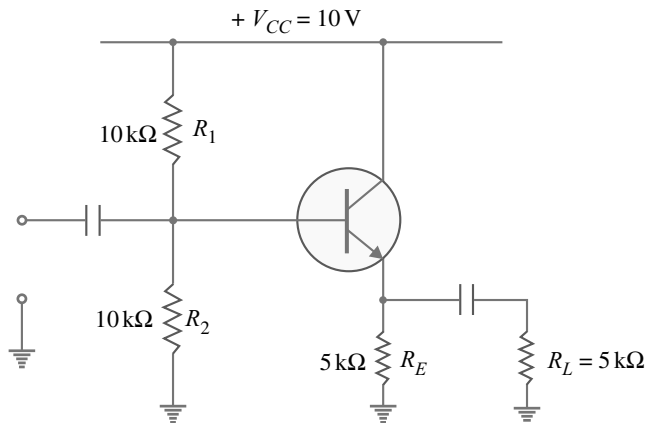

Fig. 11.31
**Solution.** When a load of  $5 \text{ k}\Omega$  is added to the emitter follower, the circuit becomes as shown in Fig. 11.31. The coupling capacitor acts as a short for a.c. signal so that  $R_E$  and  $R_L$  are in parallel. Therefore, the external emitter resistance  $R_E$  changes to  $R'_E$  where